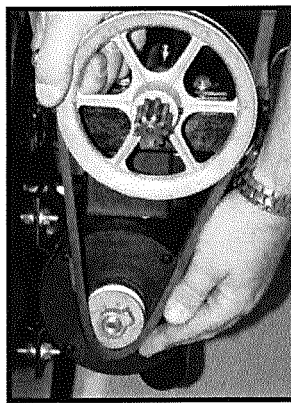

Fig.20: Slip drive belt onto pulleys.
6. Slip v-pulley drive belt onto both pulleys, taking care to place belt securely inside each groove. (Fig.20)